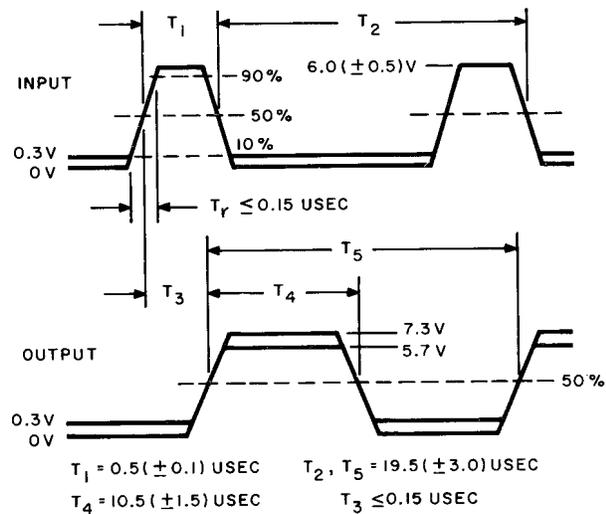

Fig. 42A — Monopulser Test
- (1) Consult Table D to determine which monopulser and corresponding input resistor are under test.
- (2) Set the NORMAL-DEGRADED selector to NORMAL.
- (3) Adjust potentiometer P1 until the voltage between J1 and ground measures $+6.0 (\pm 0.2)$ Vdc with the voltmeter.
- (4) The input test pulse on J8 should be as specified in Fig. 42A.
- (5) Rotate the INPUT selector through positions 1 to 6. The output pulse on J3 should be as specified in Fig. 42A at each position.
- (6) With the TEST FUNCTION selector in position 2, repeat as in (5).